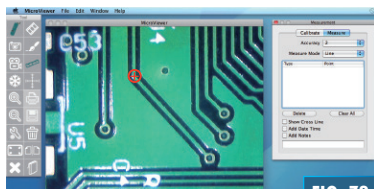

FIG. 72
3. Click and hold the mouse button at the first measurement point. (Fig. 72).